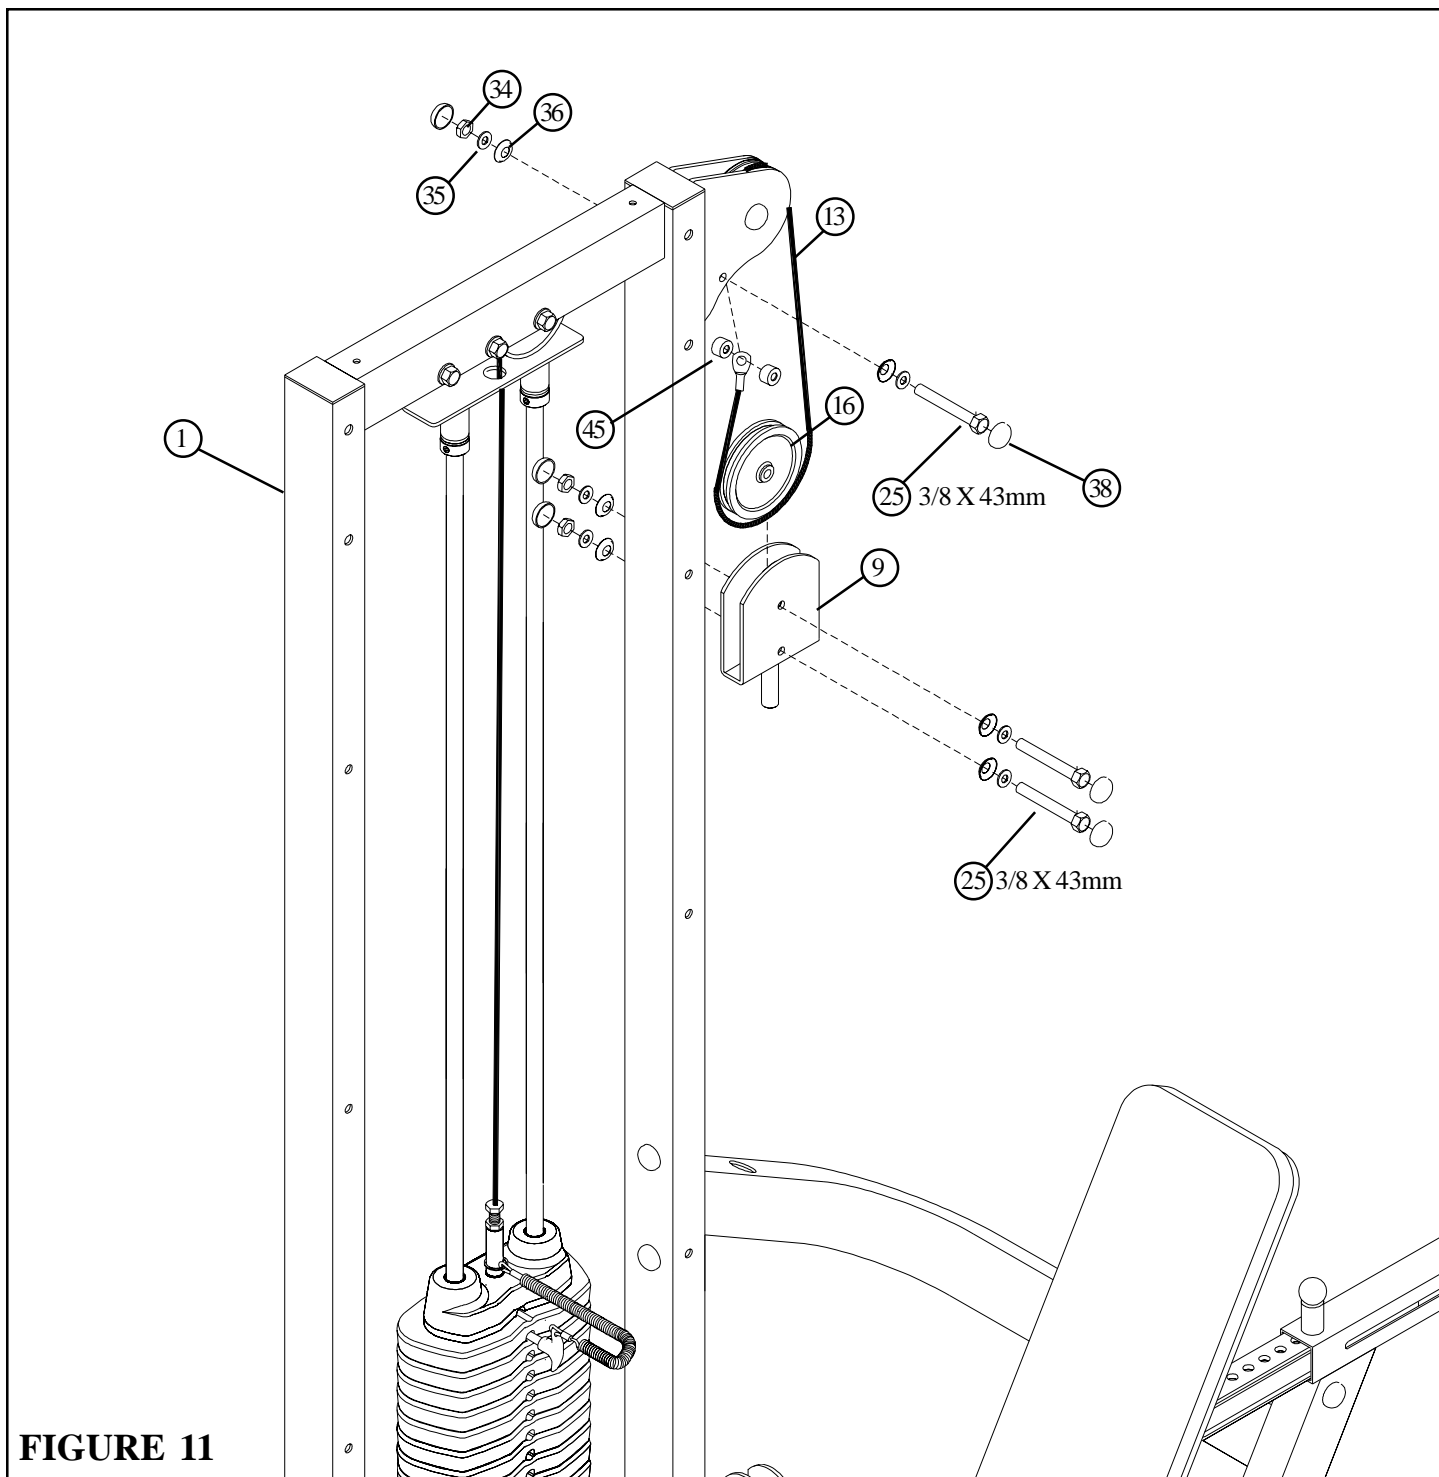

FIGURE 11
- Route the WEIGHT STACK CABLE (13) around one 4-1/2" PULLEY (16) and **SECURELY** assemble the 4-1/2" PULLEY (16) to the FLOATING PULLEY BRACKET (9) using two 3/8 X 43mm BOLTS (25), four RH CAPS (38), four 3/8" SAE WASHERS (35), four 3/8" RH WASHERS (36), and two 3/8" LOW HEIGHT LOCK NUTS (34) as shown in FIGURE 11.
- **SECURELY** assemble the end of the WEIGHT STACK CABLE (13) between the flats on the TOWER (1) using one 3/8 X 43mm BOLT (25), two RH CAPS (38), two 3/8" SAE WASHERS (35), two 3/8" RH WASHERS (36), two 5/8 X 3/8" SPACERS (45) and one 3/8" LOW HEIGHT LOCK NUT (34) as shown in FIGURE 11. (**NOTE: Do not overtighten!**)